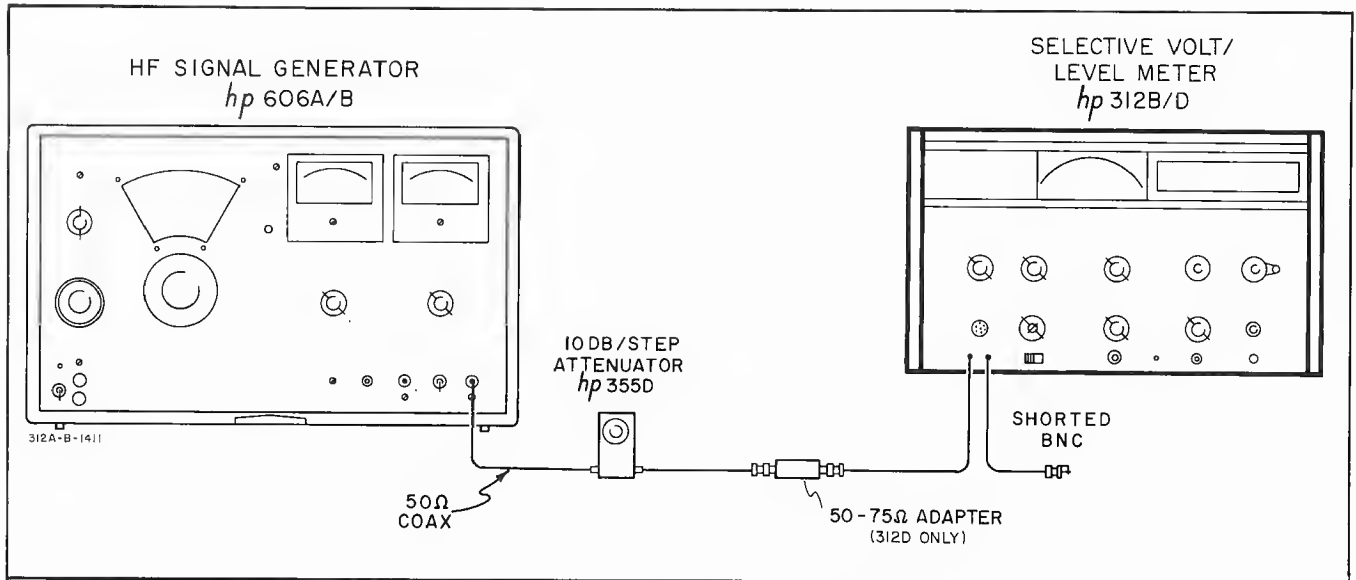

Figure 5-3. Attenuator Accuracy Test Setup.
a. Connect the equipment as shown in Figure 5-3 and set the 312B/D as follows: